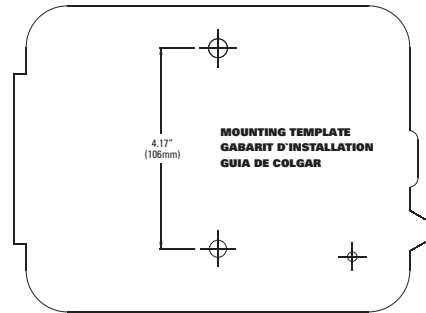

Figure 1: Use Mounting Template (included)
- Use the mounting template (included) to mark the mounting screw location on the wall. See Figure 1.